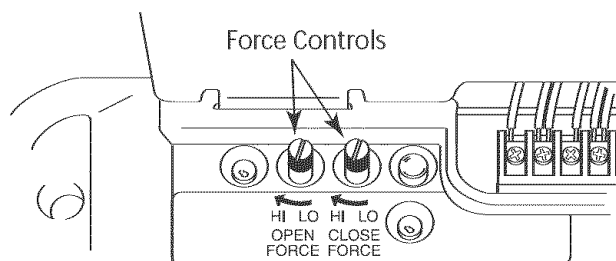

Figure A-1 Making Force Adjustments
- A** Pre-set Force Controls to midpoint between HI and LO (Figure A-1).